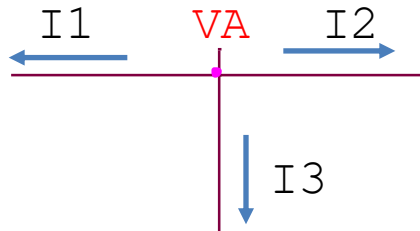

Figure 11: Currents leaving node VA
*Kirchoff's Current Law (KCL):* In words, KCL indicates that the total amount of current entering a node must be equal to the total amount of current leaving a node. In other words, there is no accumulated charge (electrons) at a node. Visually, we can represent that concept in Figure 11. Node VA has three paths (connections to various components. If we draw currents leaving the node, as shown in the figure, we can express KCL mathematically as,